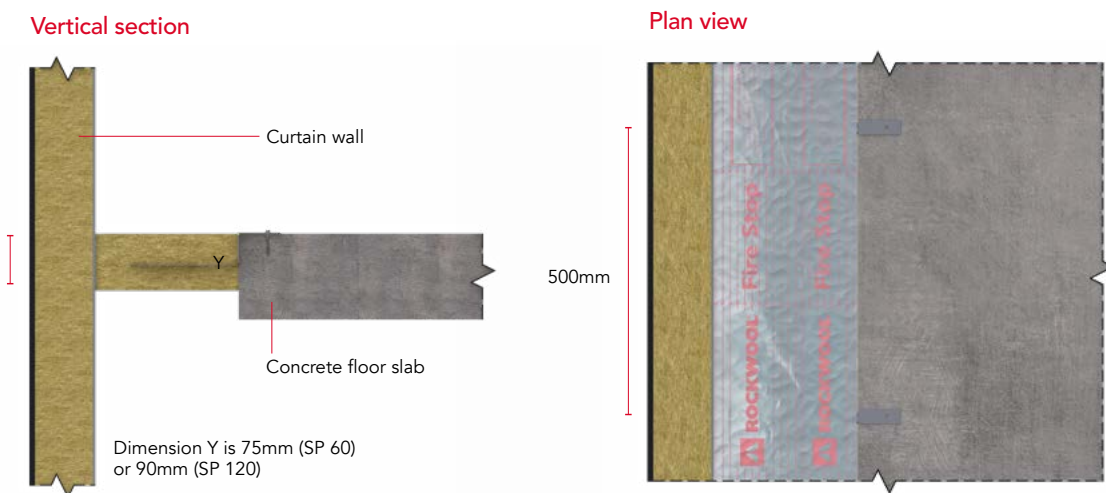

Figure 4
ROCKWOOL SP Firestop Slabs are designed for cutting on site with a sharp knife or saw and a straight edge. The cavity to be fire stopped should be measured and the ROCKWOOL SP Firestop Slab cut to suit this dimension, using one piece only per gap width - see Figures 4 and 5.
2. The ROCKWOOL SP60 or SP120 Firestop Slab is impaled onto the SP Fixing Brackets at the rate of 2 per 1000mm length, fixed at 500mm ±10mm centres as shown in Figure 4. The SP Fixing Brackets should be placed 250mm ±10mm in from each end of the ROCKWOOL SP Firestop Slab.